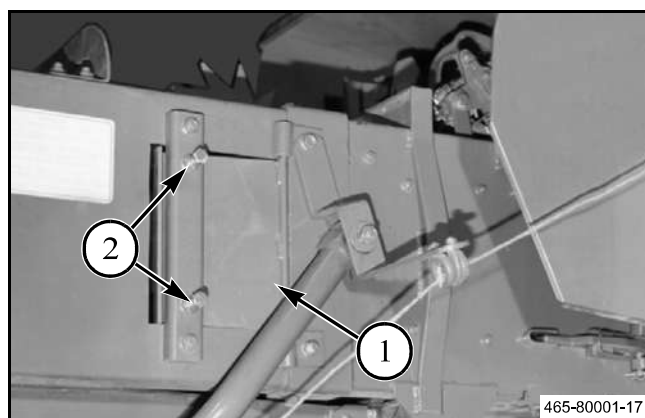

FIG. 7
FIG. 7: The hay resistor doors (1) apply pressure to the sides of the bale and reduce the amount of top and bottom pressure required from the bale density control rails. Adding pressure to the sides and near the front of the bale permits a heavier bale to be made without the twine being pulled from the twine holder. Adjust the hay resistor doors in enough to make a tight bale, without the tension rails changing the shape of the top and bottom of the bale.